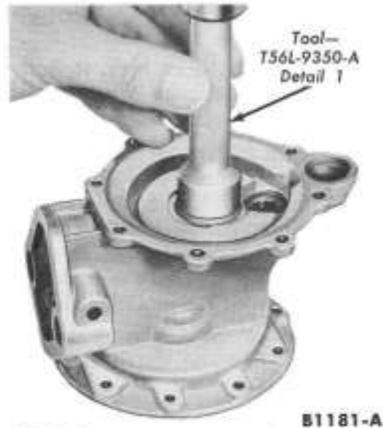

FIG. 3—Diaphragm Rod Oil Seal and Retainer Installation
1. Install the diaphragm rod oil seals and seal retainers (Fig. 3). Stake the seal retainers in place.
3. Install the gaskets and fuel valves in the fuel pump cover using the tool shown in Fig. 3, then stake them in place.